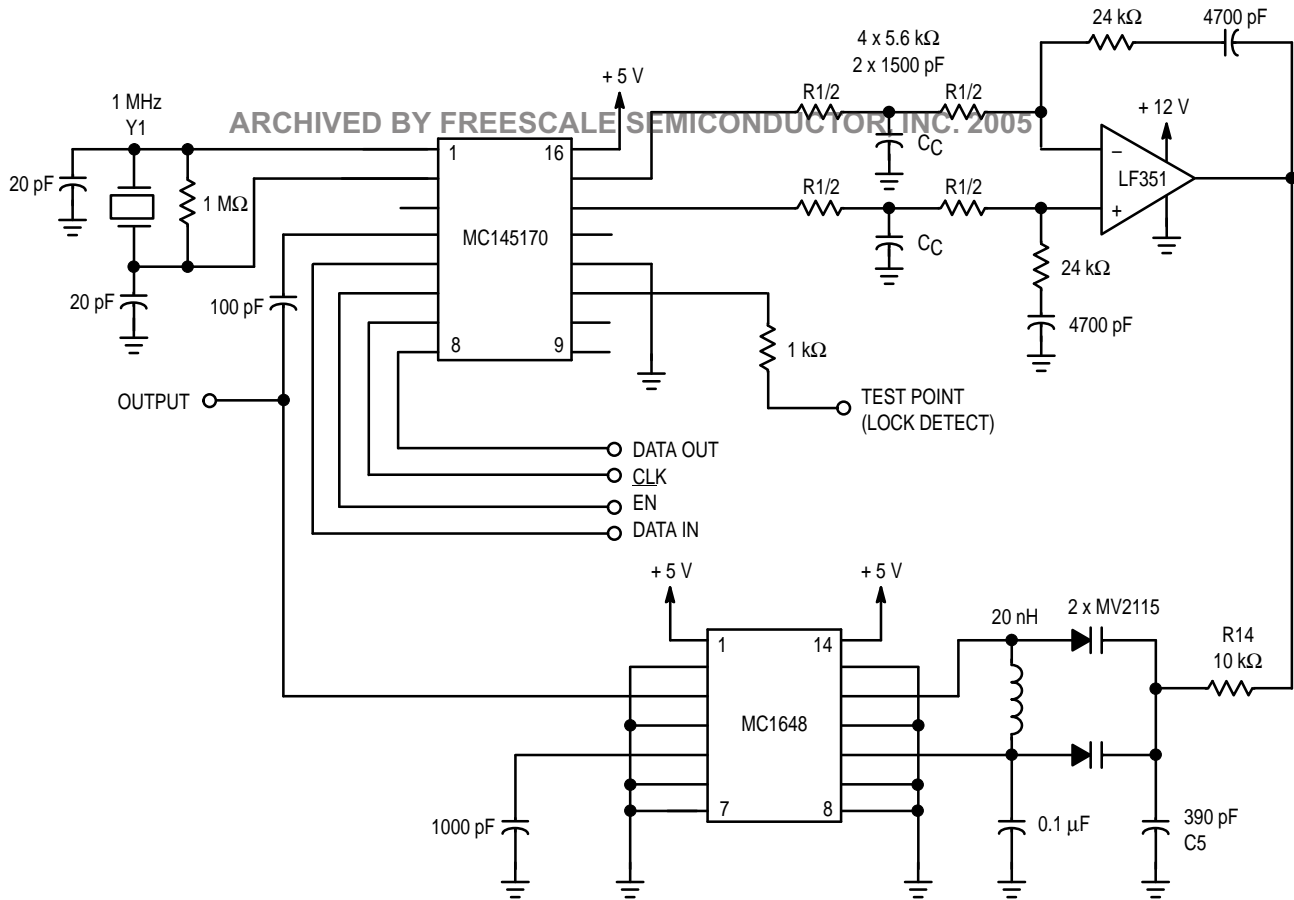

Figure 5. VHF Synthesizer
To illustrate design with the doubled-ended phase detector, the  $\phi_R$  and  $\phi_V$  outputs are used. This requires an operational amplifier, as shown in Figure 5. From the design guidelines shown in the MC145170 data sheet, the following equations are used:
For more demanding applications, extra filtering is sometimes added. This reduces the VCO sidebands caused by a small amount of the reference frequency feeding through the filter. One form of this filtering consists of spitting  $R_1$  into two resistors; each resistor is one-half the value of  $R_1$ , as indicated by  $R_1/2$  in Figure 5. Capacitors  $C_C$  are added from the
The circuit of Figure 5 may not function at very-high temperature. The reason is that the MC145170 is guaranteed to a maximum frequency of 160 MHz at 85°C. Therefore, there is no margin for overshoot (reference Figure 4) at high temperature. There are two possible solutions: (1) use the MC145170-1 or MC145170-2 which are rated to 185 MHz, or (2) limit the tuning to less than 160 MHz.